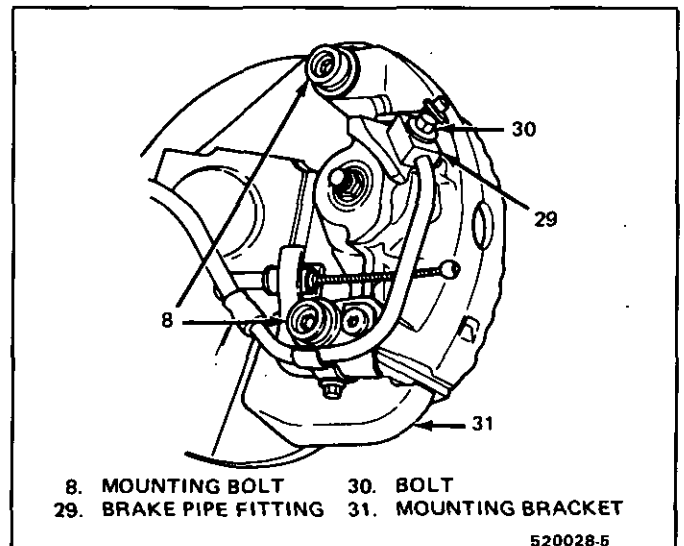

Fig. 3 Caliper Attachment
1. Sleeves (9) in caliper.
2. Caliper (25) over rotor in mounting bracket (31) as shown in Figures 3 & 4.
3. Mounting bolts (8) and torque to 41-61 N·m (30-45 lb.ft.) as shown in Figure 3.
4. Inlet fitting (29), if remove and torque to 20 N·m (15 lb.ft.).